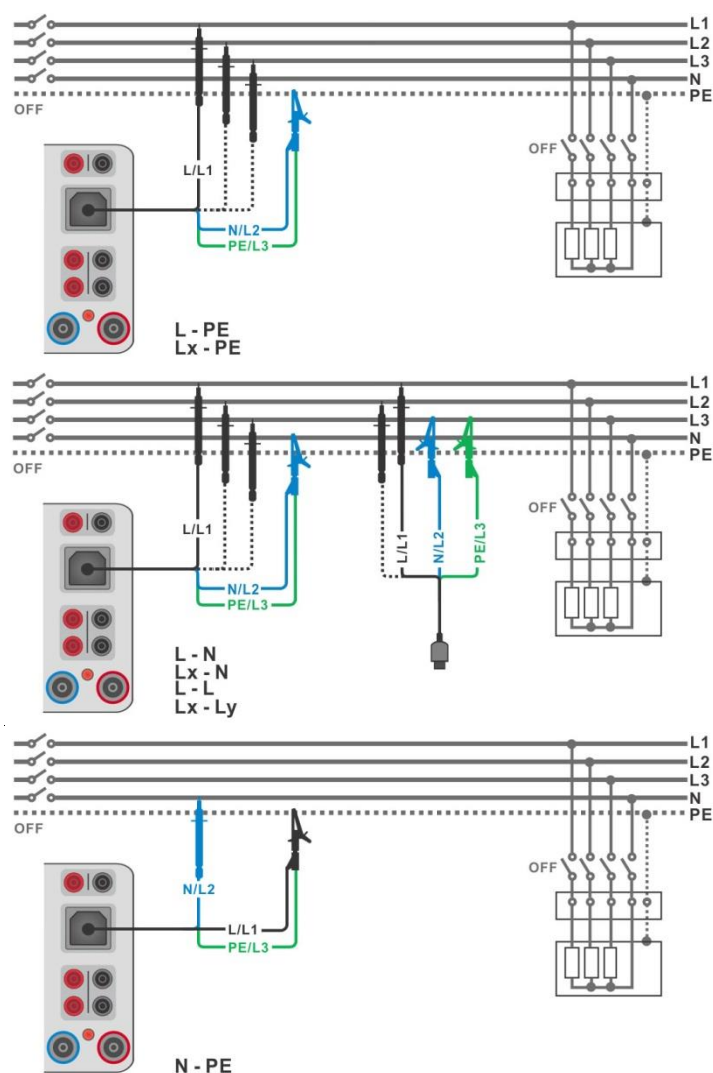

Figure 6.32: Connections of 3-wire test lead
- › Connect 3-wire test lead to object under test. (See **Figure 6.32**).